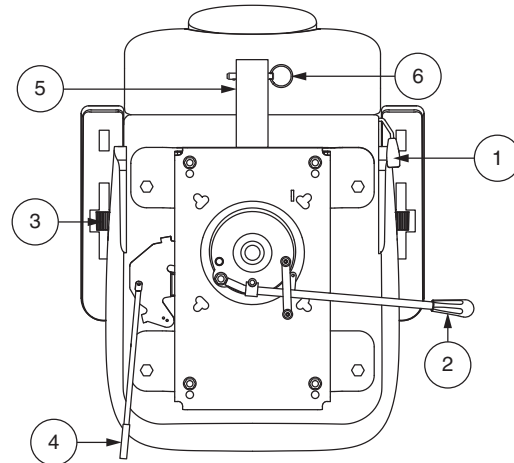

Figure 15. Seatback Adjustment
To adjust your PMV's reclining seat, you can adjust the seatback angle with the seatback adjustment lever. See **figure 15**.
1. Pull upward on the seat rotation lever to disengage the seat. See **figure 15**.
Armrest angle of your PMV can be adjusted upwards or downwards by turning the adjustment dial. See **figure 15**.
1. Move the seat sliding lever located at the lower left side of the seat outward. See **figure 15**.
The rear-mounted accessory bracket allows you to attach a personal accessory such as a basket, walker holder, or oxygen tank to the back of your PMV. Utilize the detent pin to securely mount your item to the accessory bracket. See **figure 15**. See your authorized Provider for details.